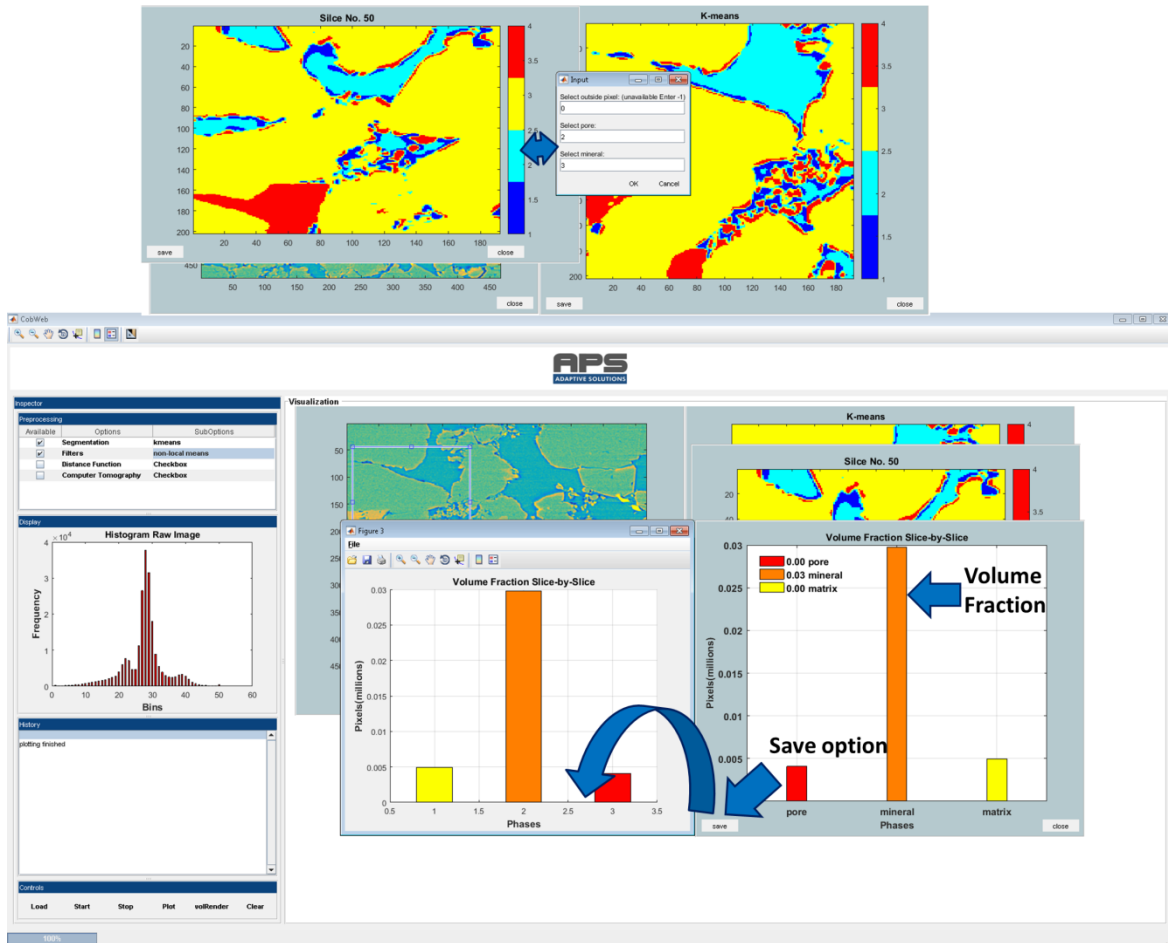

Figure 38: User input and volume fraction of single slice
- Figure 38 (top panel) shows the **slice** (no. 50) plotted in a **new window**.
- Figure 38 (top panel): The **user** assigns the cluster number to the **pore phase** and the **mineral phase** (in this case, pore = 2 and mineral = 3).
- Figure 38 (bottom panel) shows the **save option**. By clicking the save button, the plotted image can be saved in the desired image format.